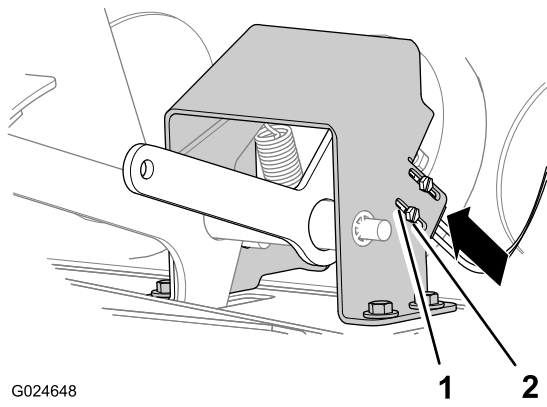

Figure 46
4. Lift the accelerator pedal to the flange of the accelerator-pedal arm against the stop, and move the interrupt switch rearward and up in the slots until the plunger of the switch is bottomed out in the switch (Figure 46 and Figure 47).